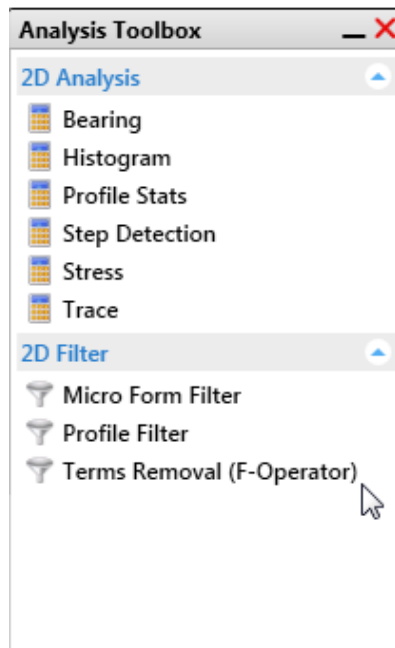
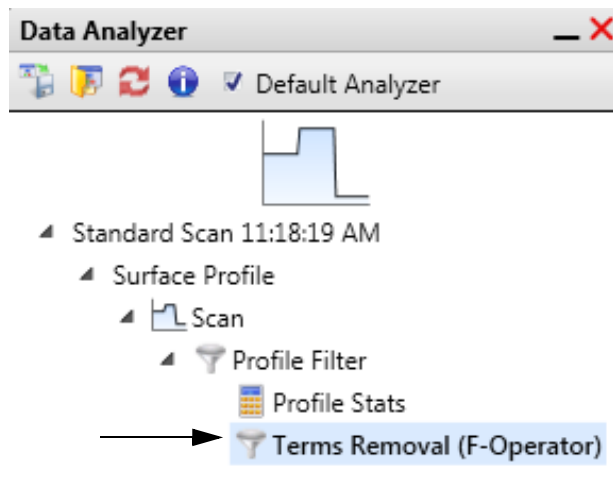

Figure 4-20: Terms Removal (F-Operator) in the Analysis Toolbox
Figure 4-21: Terms Removal (F-Operator) in the Data Analyzer Tree
- 1 Click **Terms Removal (F-Operator)** in the Analysis Toolbox (see Figure 4-20) to add it to the Data Analyzer tree (see Figure 4-21).